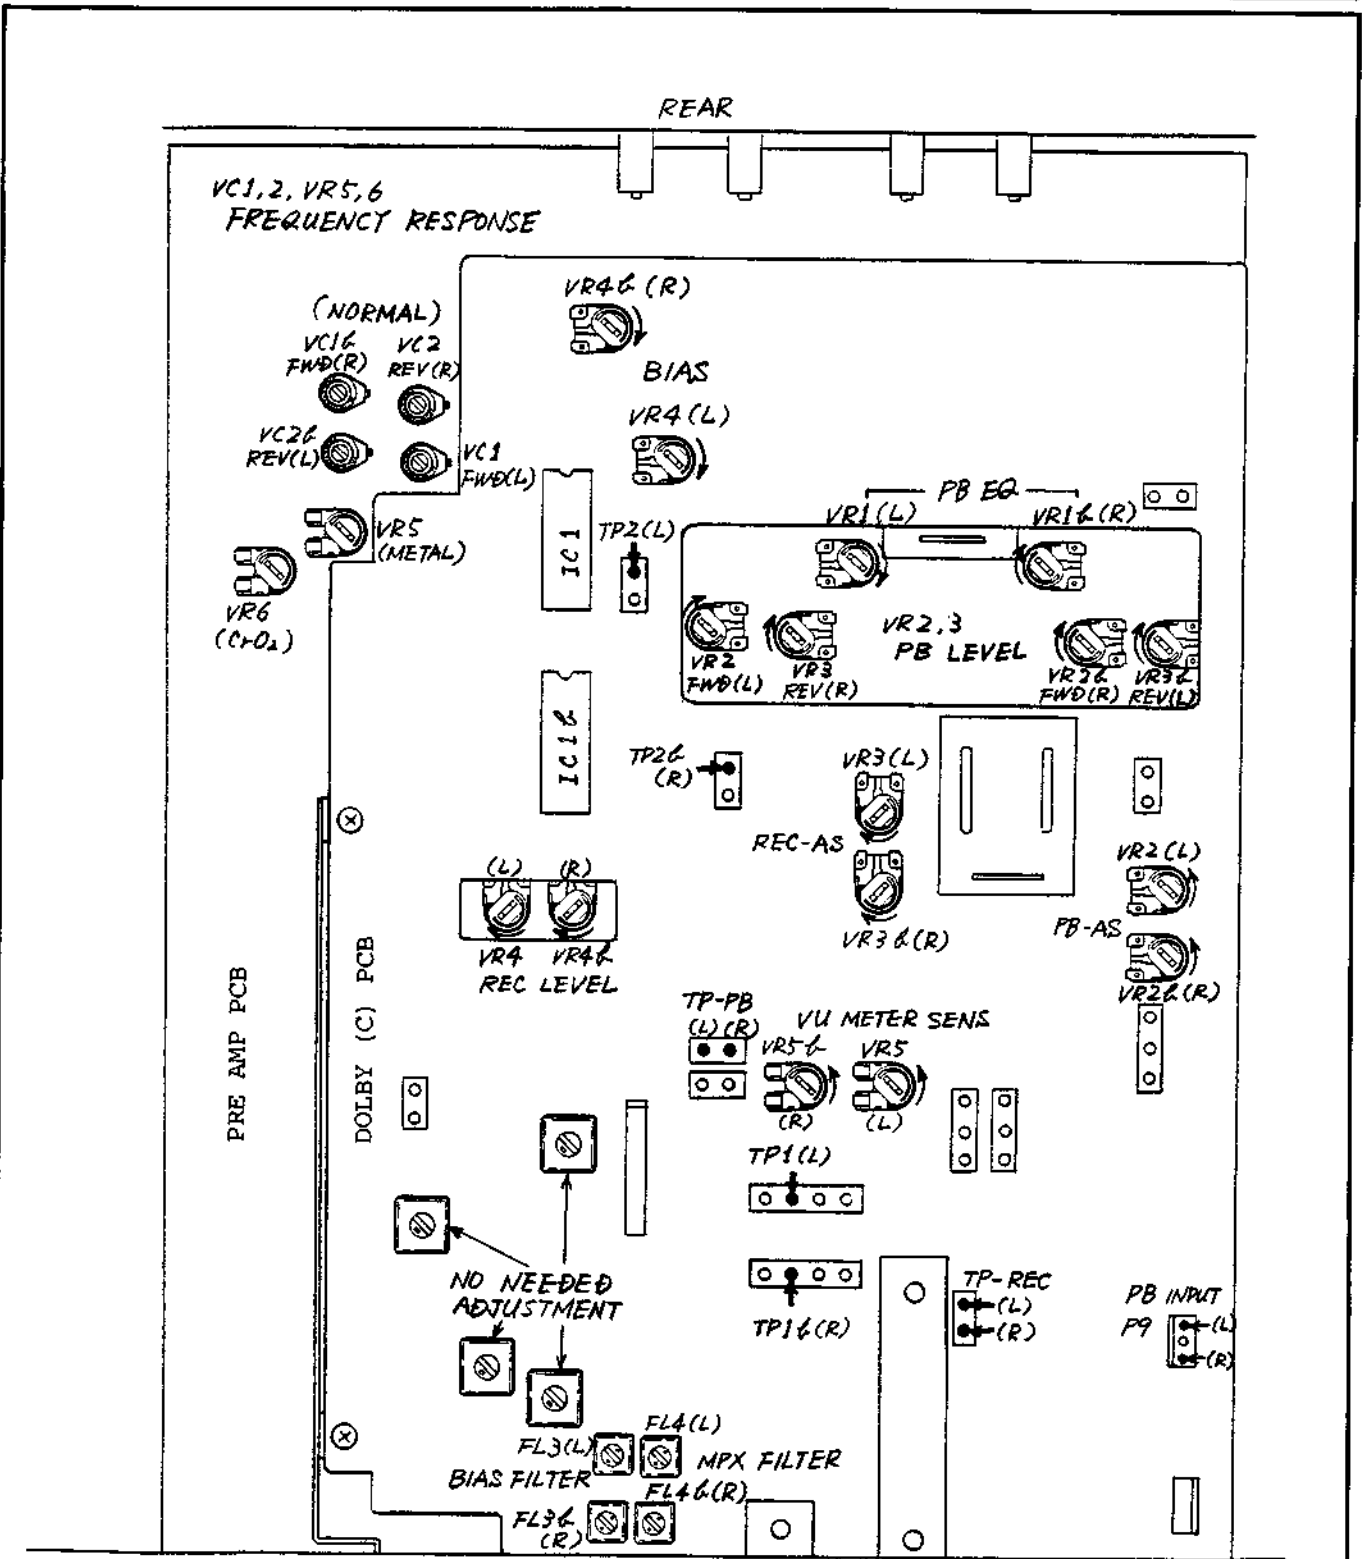

Fig. 4 Amplifier Adjustment
3. DOLBY ADJUSTMENT (Refer to Fig. 4 Dolby (C) PCB)